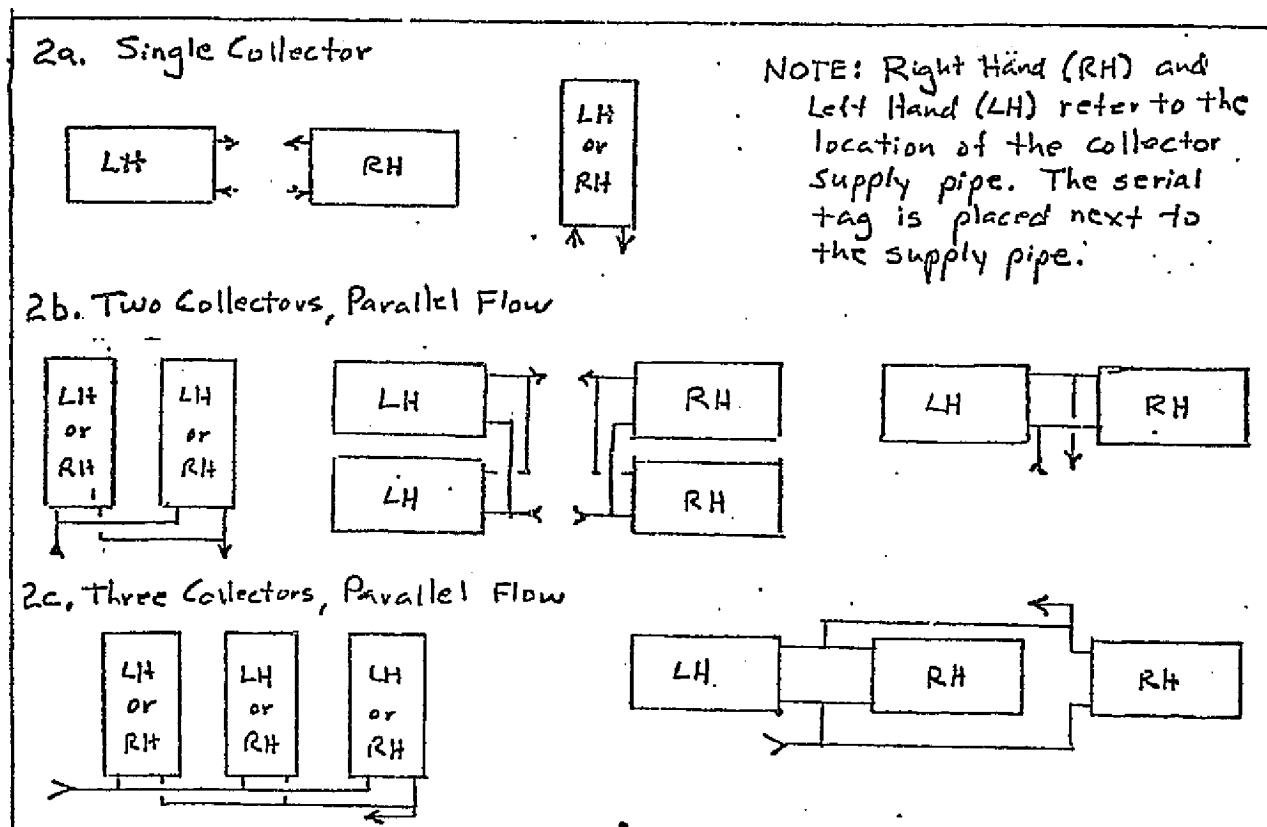

Figure 2 - Plumbing the Collectors, Representative Examples
2.2.1 Determine location of the collector(s) and ensure that the area is appropriate. (If special mounting procedures are needed - for example, rack construction or tile roofs - refer to Elcam Instruction Sheet: "SUNSPOT Collector Special Mounting Procedures".) Determine actual layout of collector(s) and piping before proceeding. See Figure 2 for various piping schemes.